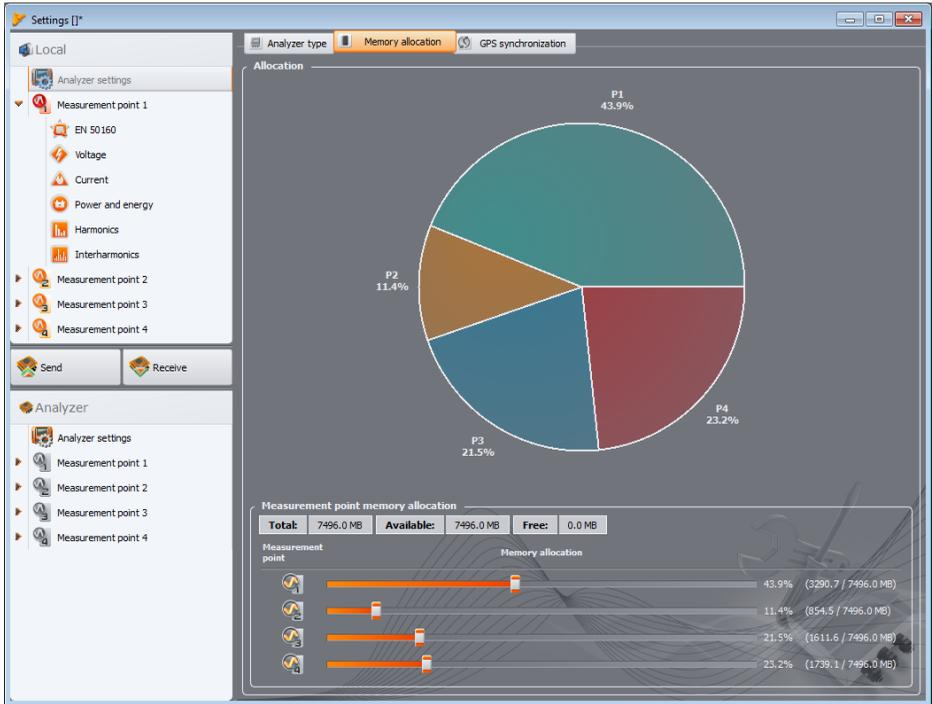

Fig. 16. Window memory allocation.
- **PQM-701 PQM-702 PQM-703 PQM-710 PQM-711 MEMORY ALLOCATION**: this tab (Fig. 16) allows user to allocate space of the analyzer's memory card to the individual measurement points. Use four sliders to allocate desired amount of memory to a given point (in MB and %). In the middle part of the screen you will see a visualization of memory allocation. All available card memory (100%) may be freely divided among the four measurement points. It is possible to allocate 100% of the memory to a single measurement point; in such case recording in other points is impossible - for them only "live" preview of mains parameters is available. All measurement points have linear recording in the memory, when the memory allocated to a given point is used up, the recording stops. Please remember that modification of memory allocation will require deleting all data from the memory card. Thus, it is advisable to download such data and save it on a local disk. New memory allocation is sent to the analyzer after clicking **SEND** button (along with configurations of all measurement points).